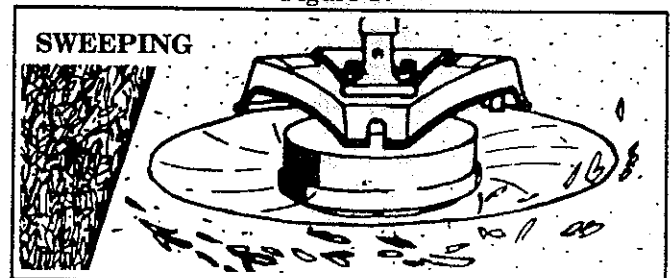

Figure 18
4. **SWEEPING – Figure 18 .** The fanning action of the rotating line can be used for a quick and easy clean up. Keep the line parallel to and above the surfaces being swept and move the unit from side to side.